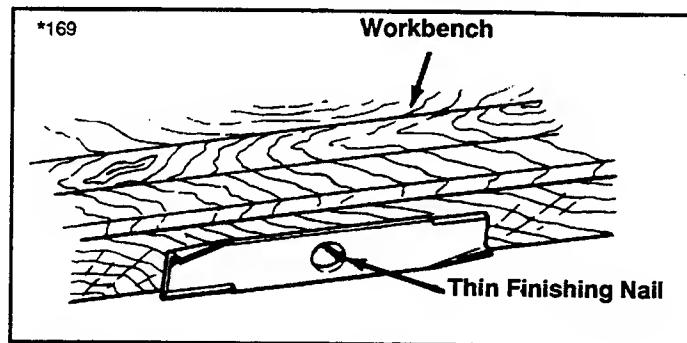

Figure 22 Balancing The Blade
1. Disconnect the cables from the battery, negative cable first (B, figure 22).
5. Balance the blade as shown in figure 22. Center the blades' hole on a nail lubricated with a drop of oil. A balanced blade will remain level.